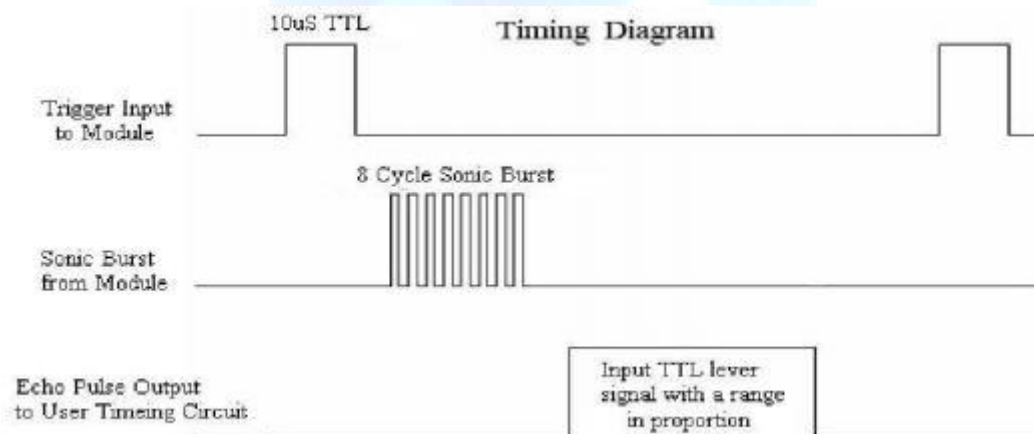

Fig. 3. Timing diagram of HC-SR04.
**Fig. 3.** shows Timing diagram of HC-SR04. After 10  $\mu\text{s}$  TTL triggering, HC-SR04 will send 8 cycles square wave right away and raise high *echo* simultaneously. Once HC-SR04 detect reflected signal, it will turn *echo* from high to low and awaits next triggering. One thing must be very careful when using HC-SR04, is the exact trigger time and enough space time between two triggering. Otherwise, it will stuck on triggering stage.